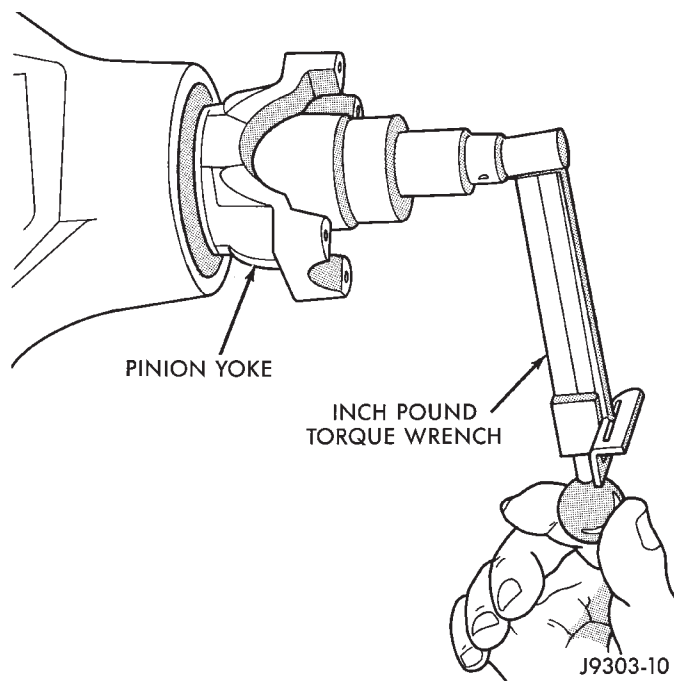

Fig. 22 Check Pinion Gear Rotation Torque
(10) Slowly tighten the nut in 6.8 N·m (5 ft. lbs.) increments until the rotating torque is achieved. Measure the rotating torque frequently to avoid over crushing the collapsible spacer (Fig. 22).
(11) Check rotating torque with an inch pound torque wrench (Fig. 22). The torque necessary to rotate the pinion gear should be: